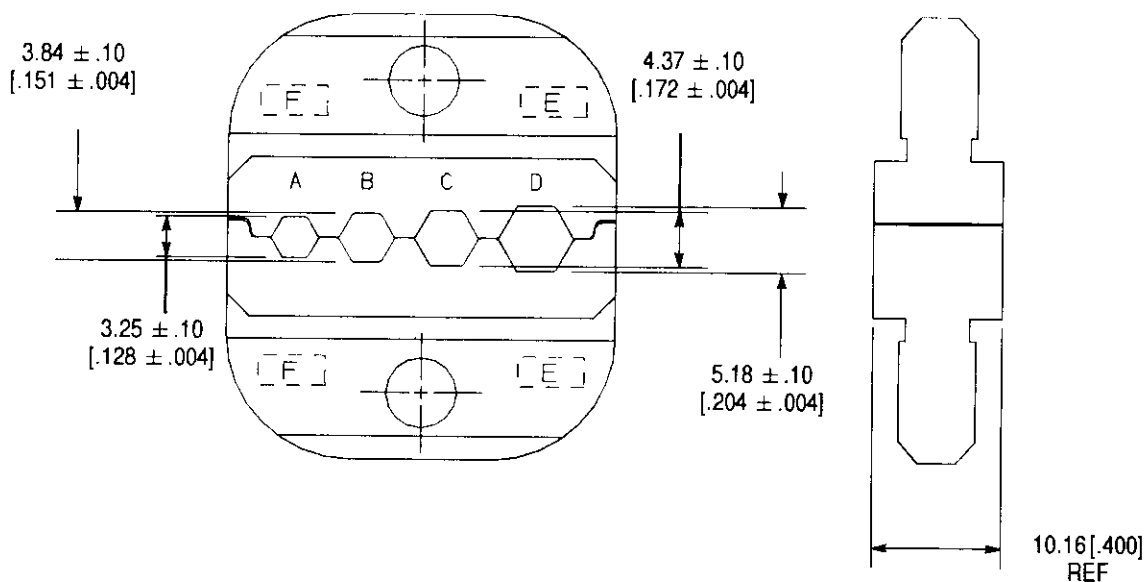

Figure 5
The die assembly will perform correctly as long as: (1) the product specified is correct for the application, (2) the specific die assembly is used, (3) the die assembly has been measured to ensure that the openings are correct, and (4) the tool has been adjusted correctly. Figure 5 provides information on die openings.